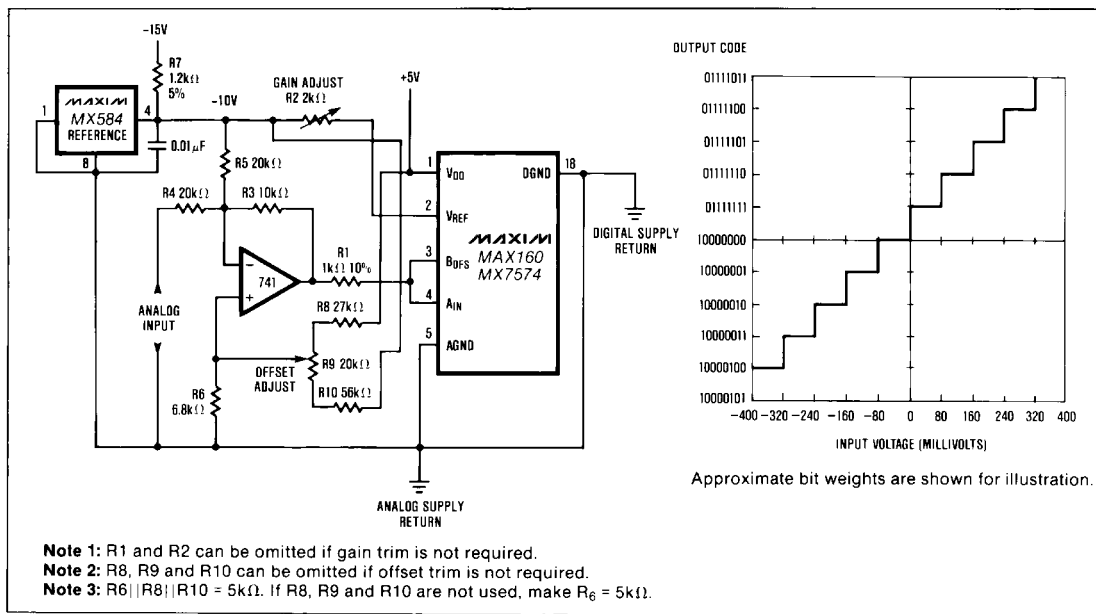

Figure 12. Bipolar (-10V to +10V) Operation and Nominal Transfer Characteristic Around Major Carry (Output Code is Complimentary Offset Binary)
Offset error in the transfer function can be trimmed by offsetting the buffer that drives the A_{IN} input. This can be achieved either by summing a cancellation current into the amplifier's summing junction, or by tapping a voltage divider which sits between V_{DD} and V_{REF} and applying the tap voltage to the amplifier's non-inverting input. An example of the latter method can be seen in Figure 12.
If offset trimming is required, it must be done in the signal conditioning circuitry used to drive the A_{IN} input in Figure 10. See also the offset trim example shown in Figure 12.
Figure 12 shows the analog connections for offset binary operation. The typical transfer characteristic is also shown. In this bipolar mode, the input signal (-10 to +10V) is conditioned and the A/D basically operates in unipolar mode (0 to +10V). Calibration is as follows (offset adjusted before gain):
1. Apply 0V to the analog input shown in Figure 12.
1. Apply -9.922V across the analog input terminals shown in Figure 12.